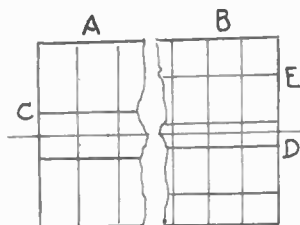

Fig. 1
Dealing with a house nameplate, as an example, cut a strip of paper about as long as the plate, and the same width. Down the centre draw two lines, $\frac{1}{2}$ in. apart, that being the length of the transfer letters to be used, as at (A) in Fig. 1. Divide into $\frac{1}{2}$ in. divisions by cross lines, and pencil in the name chosen, one letter in each division. An exception to this rule may be made with letters (I) and (J), these being much narrower. A space of $\frac{1}{2}$ in. will suffice.
If the name consists of two or more words, and a double line of lettering is necessary, mark out the guide strips as in (B), Fig. 1. Here two lines are drawn down the centre $\frac{1}{2}$ in. apart, and above and below these lines, $\frac{1}{2}$ in. apart for the lettering. Divide as before into $\frac{1}{2}$ in. vertical divisions. The bottom line of lettering must be affixed first, so cut along line (D) and remove the surplus below it. Position the strip on the plate as before, and fix on the letters. Then cut the guide strip along line (E), fixing the second and top line of letters to complete.